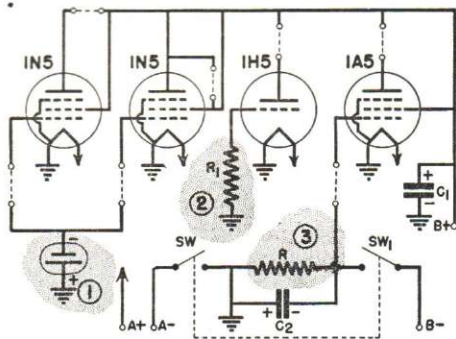

FIG. 27. Three biasing methods are shown here: 1, bias cell; 2, convection current; and 3, automatic bias.
complete battery supply circuit in Fig. 27.
Two switches are "ganged" (connected) together in most battery sets and are used to turn the set ON or OFF. In Fig. 27, switch SW is the actual ON-OFF switch. When turned OFF, this switch opens the filament circuit and thus stops tube emission, which prevents the flow of plate current. The second switch, SW_1 in Fig. 27, serves to open the B supply circuit to prevent leakage paths from draining the B battery. This is necessary because, in many sets, by-pass condenser C_1 is an electrolytic, used to keep signal currents out of the B battery. Since all electrolytic condensers have a certain amount of leakage, there will be a constant drain on the B battery un-
8. Why is switch SW₁ used to open the B supply circuit when turning off a battery receiver like the one shown in Fig. 27?